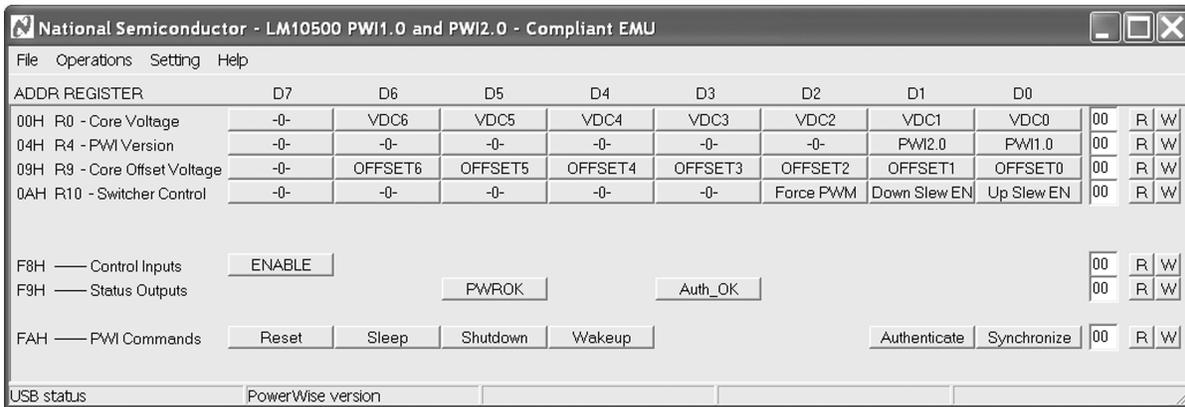

Figure 5. User's GUI For The LM10500 Evaluation Board
A user's GUI is provided to control LM10500 evaluation boards via USB connection. The GUI for LM10500 is shown in Figure 5. It is compatible with both PWI1.0 and PWI2.0. The GUI supports PWI1.0 and PWI2.0 address 0. The LM10500 device supports PWI1.0 and PWI2.0 address 0, 1, 2, and 3. The GUI can read and write LM10500 registers to control and monitor the output voltage and operation mode. The GUI can also enable, reset the LM10500, and control the operation states, such as sleep, wake up, shutdown and reset, by generating PWI commands. All AVS functions of the LM10500 can be tested easily through the GUI.
2. Run the GUI by double clicking 'Evaluation.exe', with 'Evaluation.ini' and 'usb1ptio.dll' in the same folder, from the PC. The default state of the GUI is shown in Figure 5.